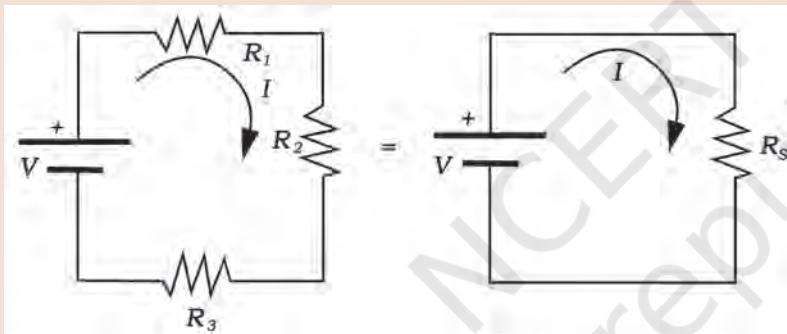

Fig. 2.11: Series circuit
- Suppose the voltage output of the battery in Fig. 2.11 is 12.0 V, and the resistances are connected in series.